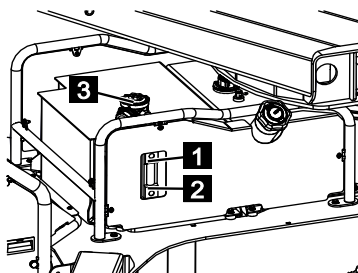

Fig. 238
5. Check the oil level in the inspection glasses for maximum (Fig.238/1) and minimum (Fig.238/2) level.
6. The hydraulic oil level must reach the maximum marking (Fig.238/1). If necessary, top up the hydraulic oil.
7. To do so, unscrew and remove the cap (Fig.238/3).
8. Fill the hydraulic oil up to the maximum marking on the inspection glass (Fig.238/1).
9. Screw the cap (Fig.238/3) back on.